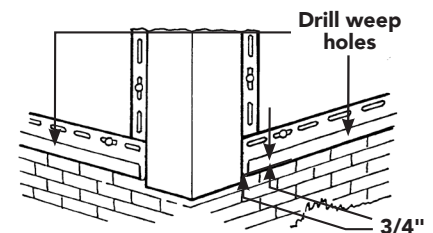

Figure 52
- Position the top edge of a J-channel or vertical base along the previously snapped chalkline. Remember to drill minimum 3/16" (4.8mm) diameter weep holes no more than 24" (610mm) apart (Figure 52).